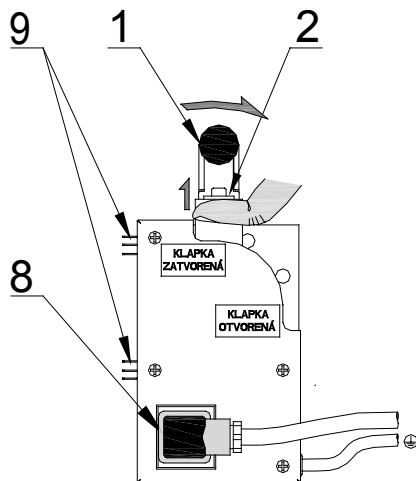
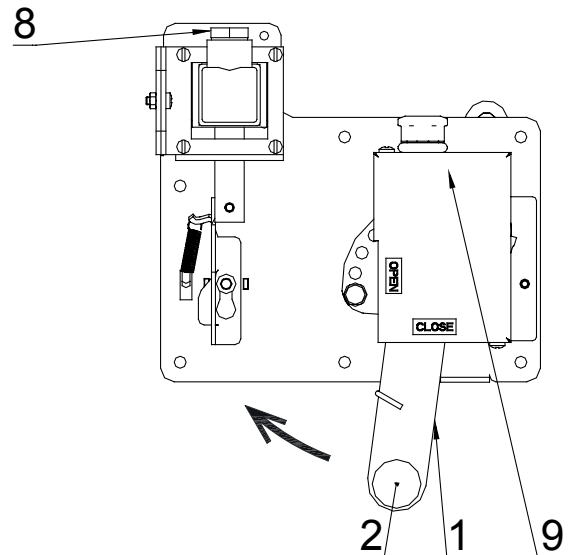

Fig. 8 Manual actuator for small fire dampers
Fig. 9 Manual actuator for big fire dampers
Damper function is checked by pulling the trigger (2) the spring will move the lever (1). (Fig. 8 & Fig. 9) from open position to close position. If the damper is equipped with electromagnet, the damper must be tested by putting signal in to it. The actuator must be armed manually after the control.